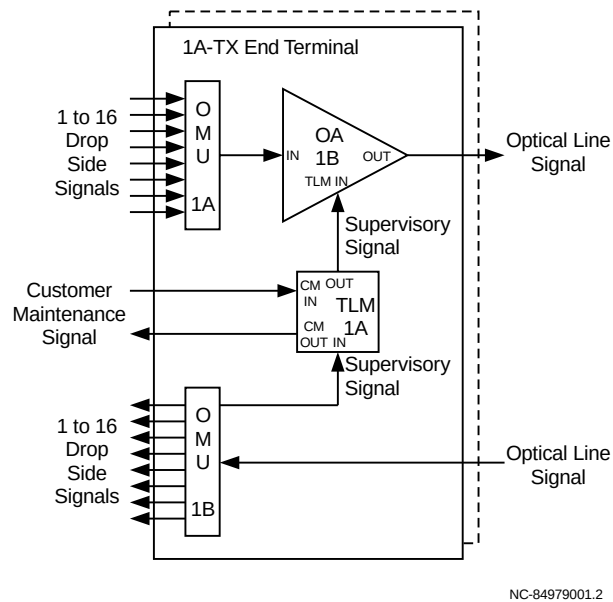

Figure 5-7. Single Optical Amplifier 1A-TX End Terminal Transmission Block Diagram
Figure 5-7 shows a transmission block diagram of the End Terminal Shelf with a single optical amplifier (OA) circuit pack provisioned as a 1A-TX end terminal.